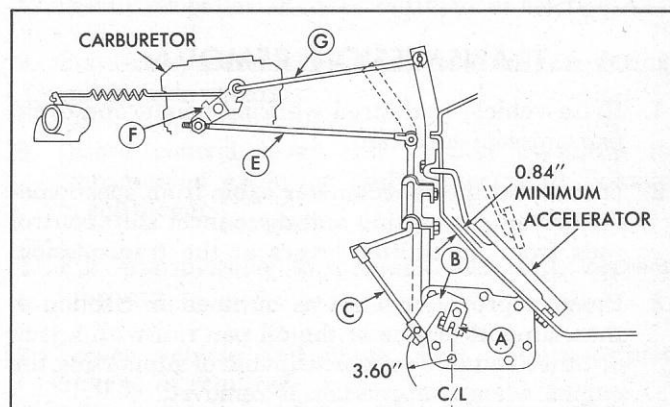

Fig. 3—Throttle Valve Linkage Adjustment
1. Disconnect rods (G) and (E) at bell crank (F) (fig. 3).